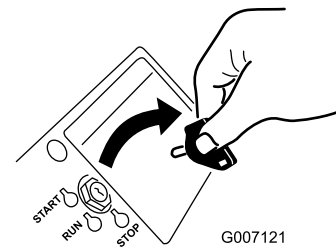

Figure 29
4. Remove the ignition key (Figure 29).